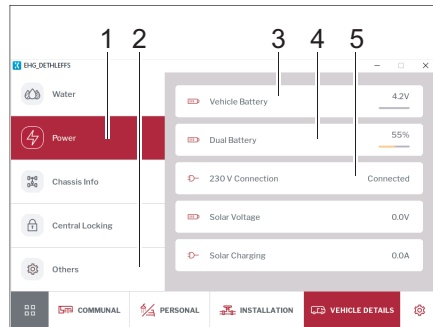

Fig. 279 Power and inside temperature
- Click on the *Power* (Fig. 279,1) button.
The vehicle's battery voltage (Fig. 279,3), the charge status of the body battery in % or charge voltage of the AGM battery in V (Fig. 279,4) and the 230 V supply status (Fig. 279,5) will be displayed.
- Click on the *Other* (Fig. 279,2) button.